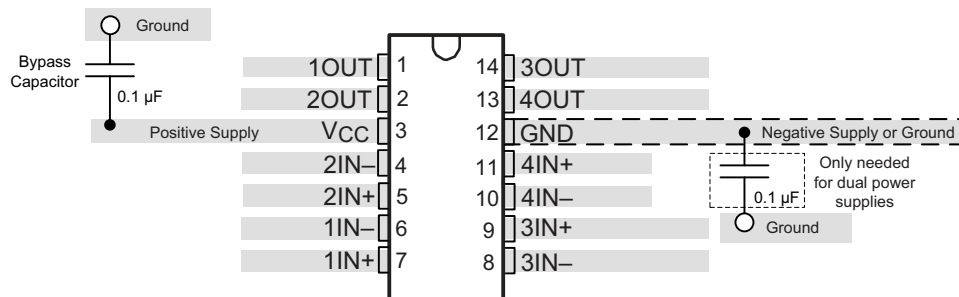

Figure 7-3. Comparator Board Layout
- To minimize supply noise, place a decoupling capacitor (0.1 μ F ceramic, surface-mount capacitor) as close as possible to V_S as shown in Figure 7-3.